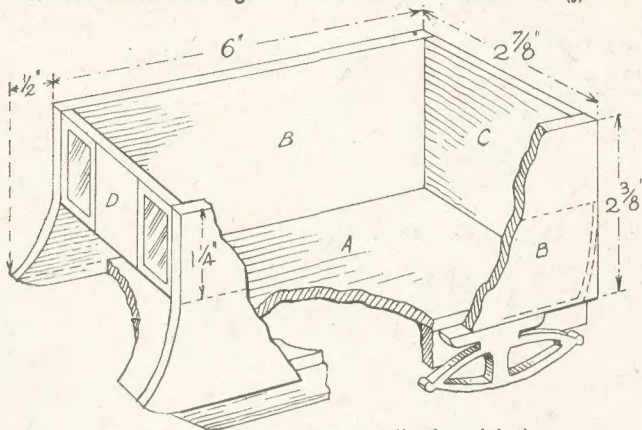
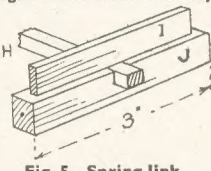

Fig. 1—Helpful constructional details of coach body
Fig. 5—Spring link
The body of the bus is really a simple box constructed of ¾in. wood glued and pinned in places with small brass fret pins. Fig. 1 shows necessary measurements for the side, back, etc., and how the latter, as well as the floor (A) go
between the sides and the back. The floor measures $6\frac{3}{4}$ in. long by $2\frac{1}{2}$ in. wide, and from the cut-away view at the front of Fig. 1 we see how the floor is fitted and then shaped up to meet the curve of the front of the body.
The rear springs of the coach are shown at (L) full-size among the patterns. Two must be cut $\frac{3}{8}$ in. thick, as also will the two forward springs (M). All four springs will be glued to the face of rails (N) and immediately under the sides (B) as seen in Fig. 1. Connecting the rear pair of springs is the rail (I) measuring $2\frac{1}{2}$ in. by $\frac{3}{8}$ in. and seen in detail in dotted lines in Fig. 4, and in detail Fig. 5.